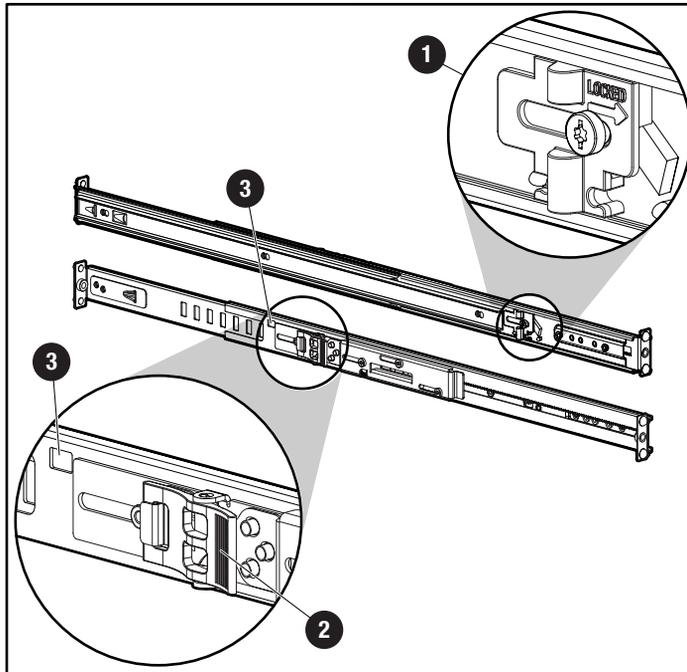

Figure 4-3. Universal rack rails
❶. Figure 4-3.
3. To adjust the length of the rail, press the extension release latch ❷.